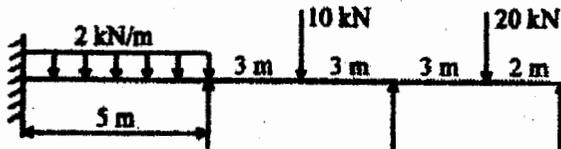

Fig 2
- (b) Draw the bending moment diagram and shear force diagram for the continuous beam shown in fig 2. Using moment distribution method. EI is constant.